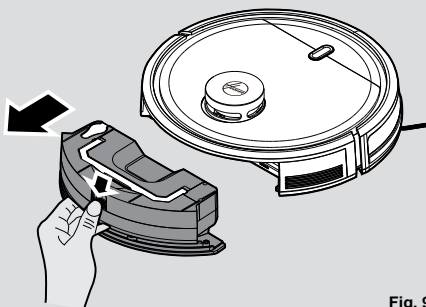

Fig. 9
1. Press the release button and pull it out. [Fig. 9]
1. After vacuuming, remove the water tank and the dust container. Press the release button and pull it out. [Fig. 9]